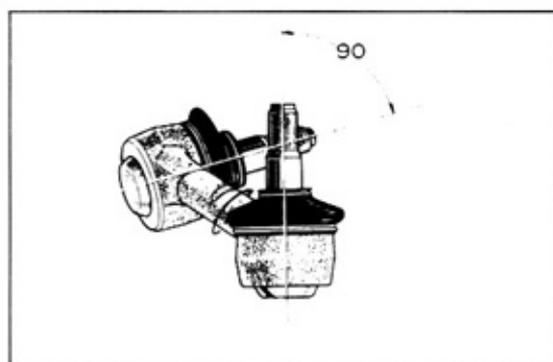

Fig. 7-38 Tie Rod End Intersecting Angle
3. Before locking the tie rod ends, leave enough turning reserve in the tie rod ends so that the tie rod inner and outer relative angle can be made to that shown in Fig. 7-38.